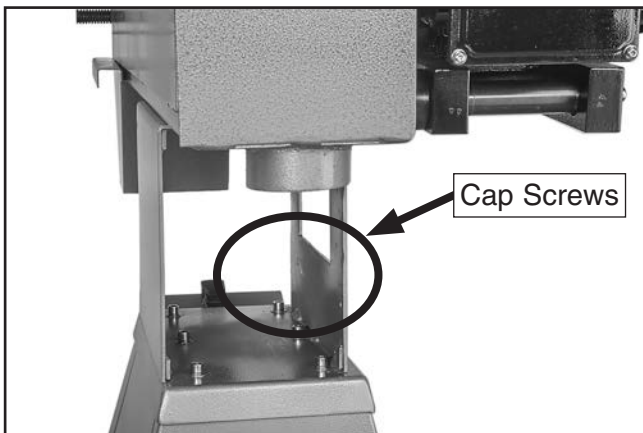

Figure 12. Machine attached to base.
11. Secure machine to base with six cap screws removed in **Step 7** (see **Figure 12**).